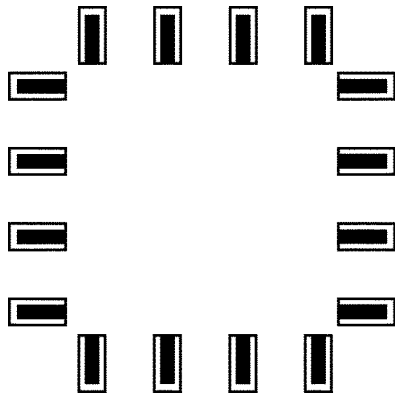

Figure 1
- Figure 1 is an illustration of proper lead-to-pad alignment in the vision system with the leads (dark) properly centered over the pads. No vision adjustment is required in this case.